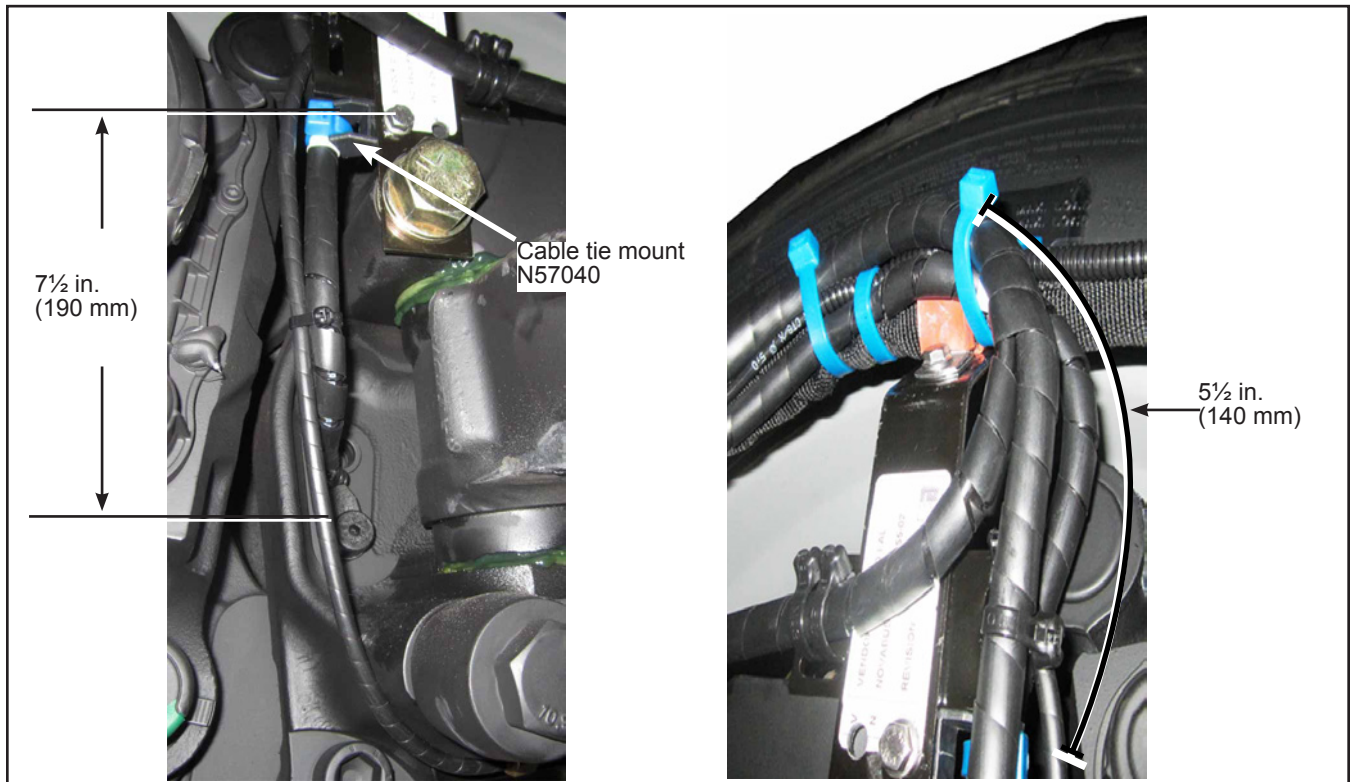

Figure 15 - Fastening of Harness With Tie-Wraps
2.19. Affix the electrical harness to the N57040 cable tie mount with tie-wraps at the indicated locations shown in Figure 15.
2.20. Affix the electrical harness to the brake hose using tie-wraps, as shown in Figures 15 and 16. Distance between tie-wraps is typical. If necessary, install additional tie-wraps.